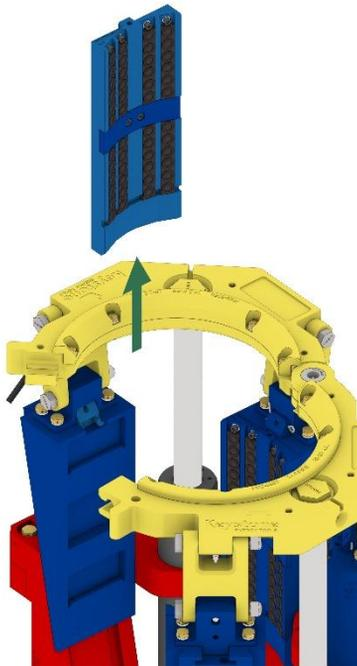

Fig. 14
Step 5: Use an eye bolt by screwing it into the tapped hole on top of the carrier as a lifting point when using an overhead crane for removal. The Insert carrier can be removed from the slip by lifting up and out on it. Majority of the die carriers have two tapped holes for lifting points on top. For ease of assembly and disassembly it is recommended to use the tapped hole closest to the latch. See figure 14.